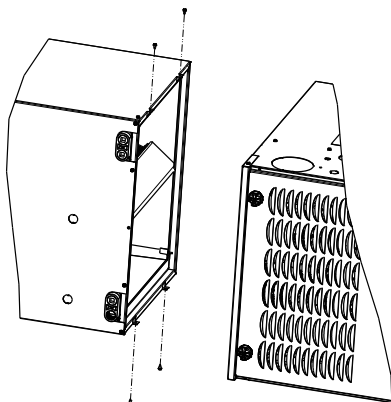

Fig. 13 – Horizontal Left Installation A221206
3. Use self-tapping screws to attach furnace (Fig. 13).